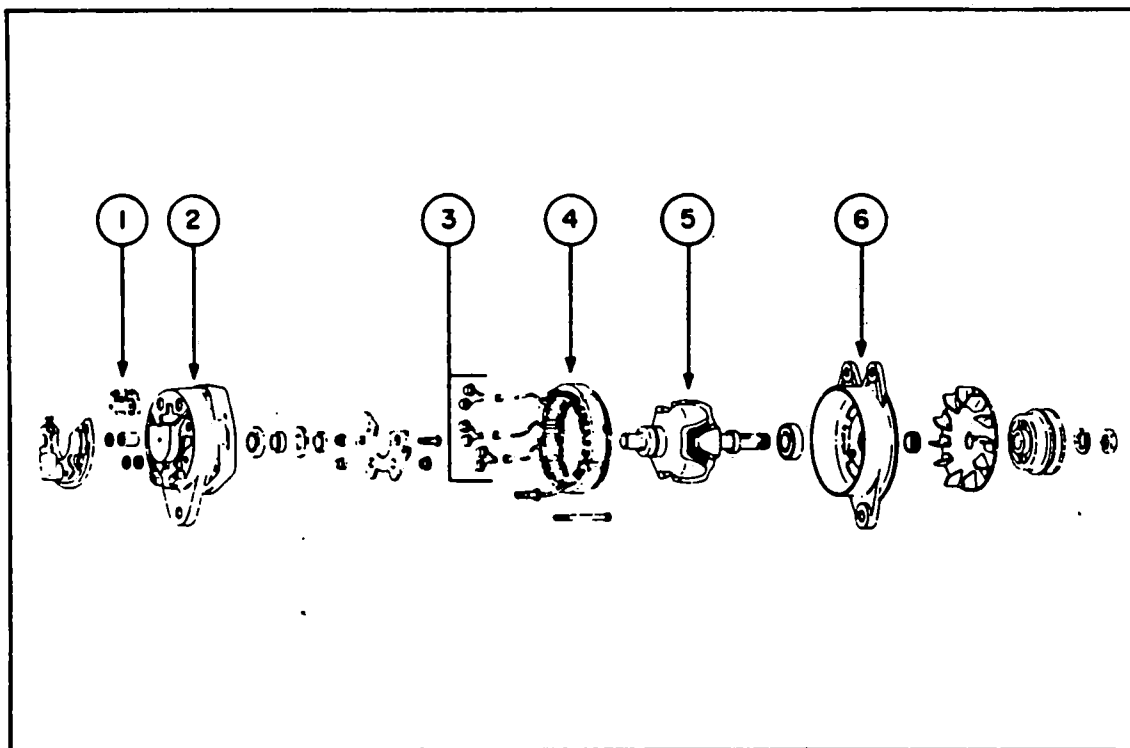

Figure 11-21. Exploded View of Alternator
11-56. DESCRIPTION OF ALTERNATOR. (Refer to Figure 11-21.) The principal components of the alternator are the brush holder assembly (1), the slip ring end head (2), the rectifiers (3), the stator (4), the rotor (5) and the drive end head (6).